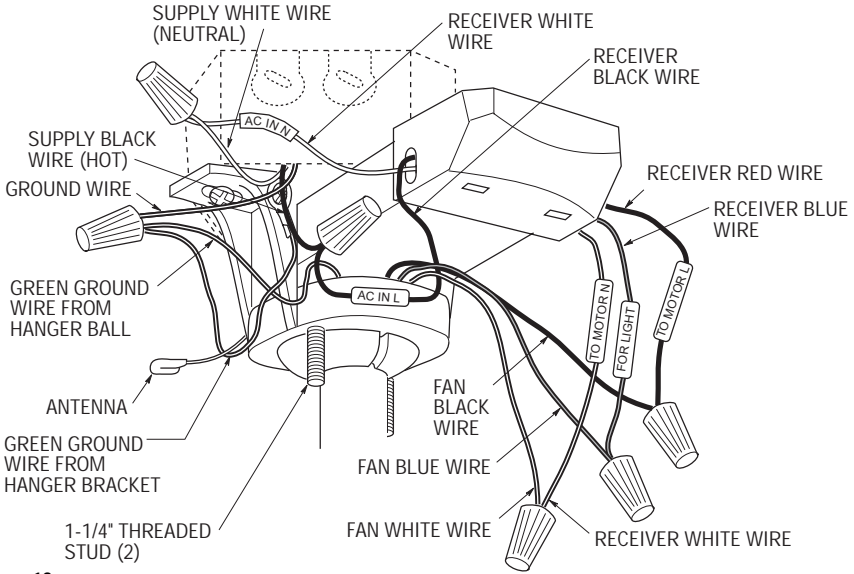

Figure 13
- 1. Position the supply wires to the left side of the outlet box (Figure 13); position the fan wires to the right side. Partially insert the remote control receiver (flat side up) until one end rests on the hanger ball as shown in Figure 13.
- 2. Refer to Figures 13 and 14 and connect the receiver wires to the supply wires and the fan motor wires as follows:
- 4. Screw the two 1-1/4" threaded studs (supplied) into the tapped holes in the hanger bracket (Figure 13).